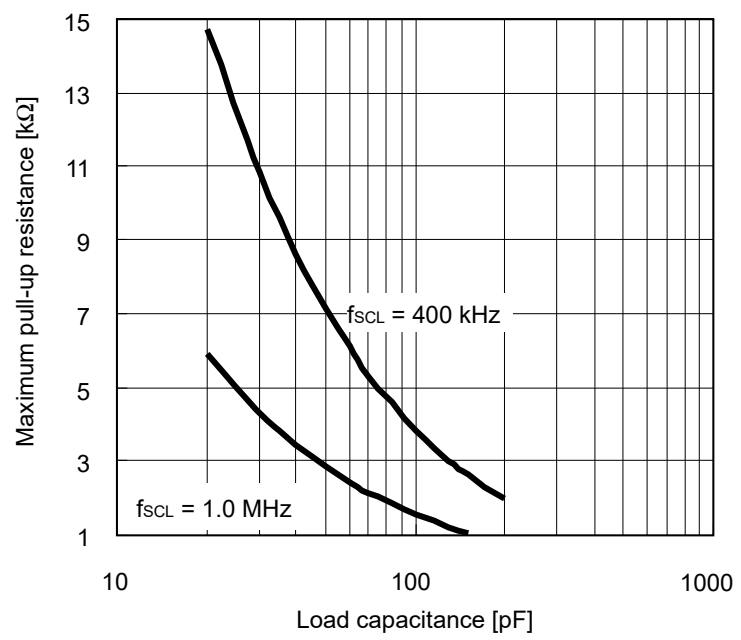

Figure 10 Output Load
*1. Since the output form of the SDA pin is Nch open-drain output, the SDA output delay time is determined by the values of the load resistance and load capacitance outside the IC. Figure 10 shows the relationship between the output load values.